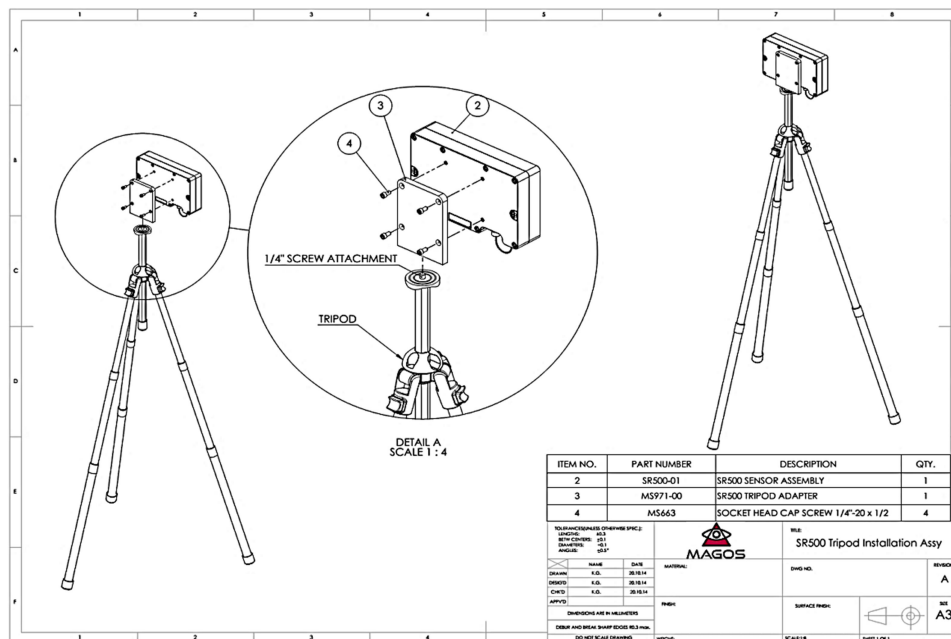
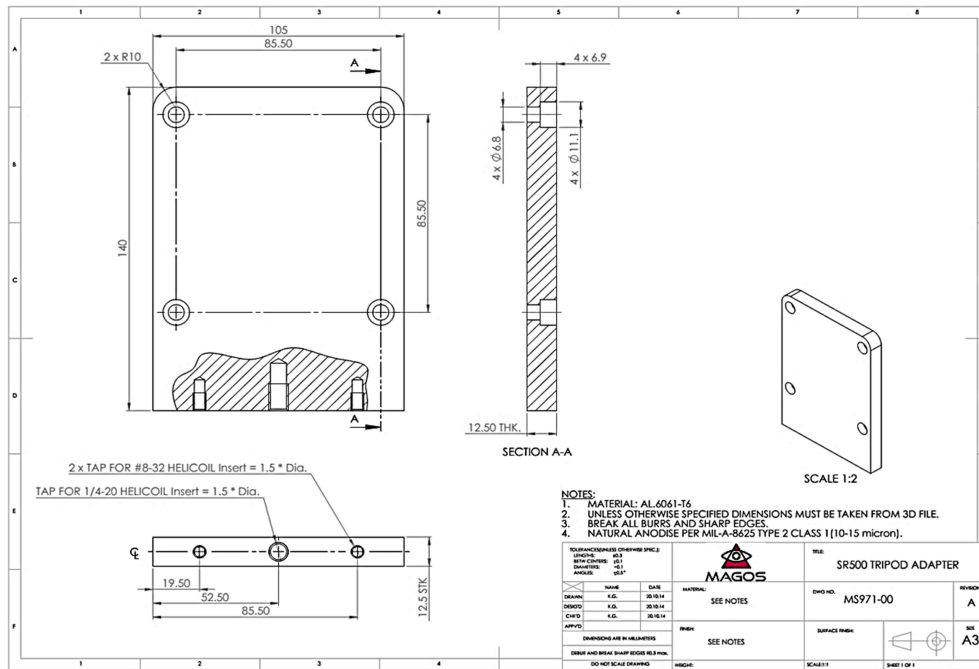

Figure 2: SR Tripod Installation
Figure 3: SR Tripod adapter
Figure 2 outlines the mechanical dimensions of the unit and mounting holes, and the electronic connector location. Holes are compatible to 1/4"-20X1/2 screws. Screws and mounting brackets can be purchased separately from Magos. The brackets and their use are depicted in:
- **Figure 2** and **Figure 3** for installation on a tripod, or Figures 5-7 for wall/mast/pole mounted installation.